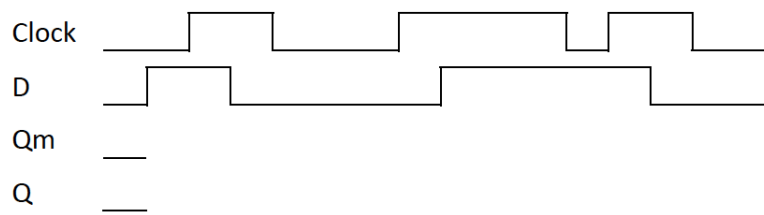

Figure 1: Time diagram for Master-Slave Flip-Flop.
3. Draw **Qm** and **Q** signals on the given time diagram in Fig. 1, and add it to your report.